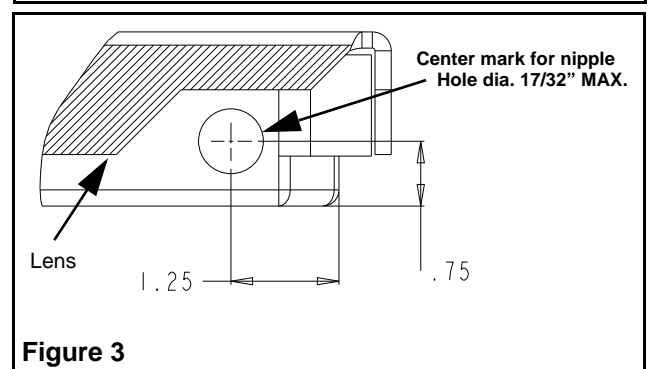

Figure 3
3. Remove the six screws(1) holding the lens(2) on the housing. Open the lens and remove the panels plus diffuser .
**CAUTION:** If not drilled in the suggested location, you risk damaging the PCBA and wires (see figure 3).
1. Drill holes to accommodate an appropriate fitting to meet Nema 3R rating where indicated by a center mark on the top of the housing (see figure 3). *You might wish to reinstall the lens(2) temporarily to make sure that there will not be any interference between the fitting and lens once attached.*
1. The unit can only be installed with the canopies(12) on the top of the unit.
2. Drill two 17/32" dia. holes where indicated by a center mark on the top of the housing (see fig. 3).